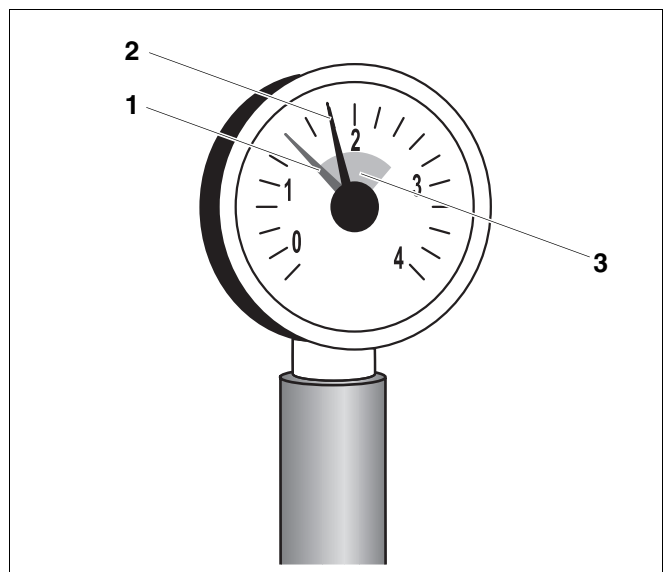

Fig. 1 Pressure gauge for sealed systems
On sealed systems the pressure gauge needle (Fig. 1, **item 2**) must be within the green range (Fig. 1, **item 3**). Set the red needle (Fig. 1, **item 1**) on the pressure gauge to the required system pressure.